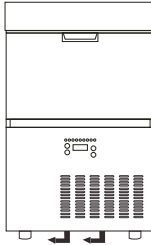

Figure2
3. Gently pull the front panel forward along the edge (Figure 2). Caution: Do not apply excessive force to avoid disconnecting the display panel cable.